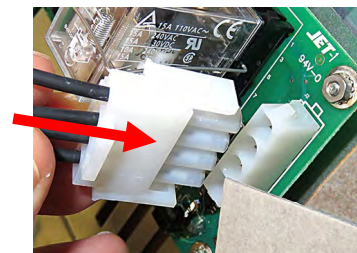

Figure 22
26. Plug in one of the 4 pin harnesses to the right side of the new board (see Figure 22).